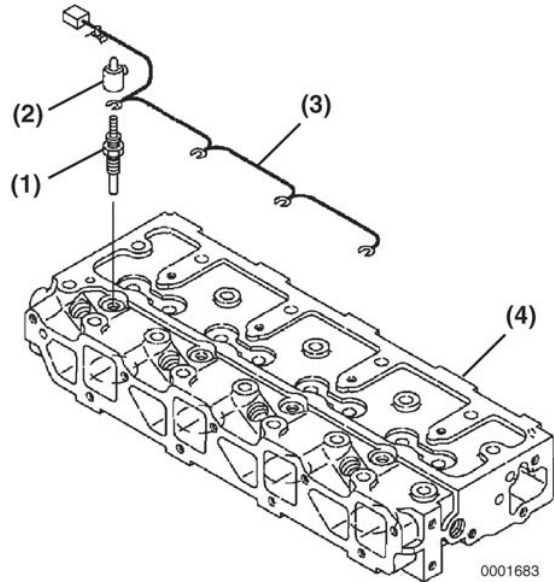

Figure 6-3
1. Remove the glow plug cover (Figure 6-3, (2)) from each of the glow plugs (Figure 6-3, (1)).
2. Disconnect the glow plug harness (Figure 6-3, (3)) from the glow plugs.
3. Remove the glow plugs from the cylinder head (Figure 6-3, (4)).